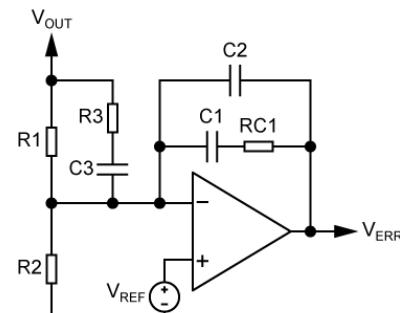

Figure 14. Type II Compensation Network
Due to the output capacitor ESR creating a zero within the range of the desired crossover frequency (F_{CO}), this design only requires that one adds one zero and one associated pole. The phase boost in this case occurs between the zero (FZ) and the pole (FP) of the compensator. Therefore, the zero gain crossover frequency (F_{CO}) will be between these two points. The zero is created by $RC1$ and $C1$. The pole should be set at some half switching frequency to reduce noise sensitivity. The plateau gain (gain between FZ and FP) is set by $RC1$ and $R1$, $A_{VPLATEAU} = RC1/R1$, this should be set to a modest gain of five-to-ten to improve transient response. This compensation network is shown in Figure 14.